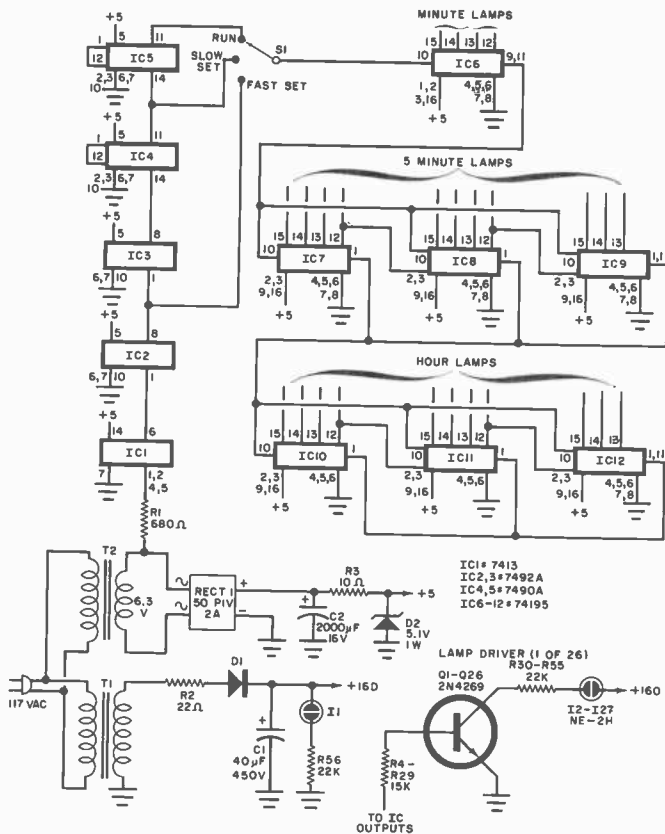

Fig. 3. Schematic of digital electronic clock with an unusual readout system.
**Reader's Circuit.** Quite novel when first introduced, digital electronic clocks have become so commonplace today that they seldom warrant more than a passing glance. However, if you'd like something "really different" in the way of an electronic time keeper, you might consider the circuit shown in Fig. 3. Submitted by Kenneth B. Salomon of the Department of Mathematics, California State University, Hayward, CA 94542, the design has a rather unique readout display—individual lamps to represent 1-minute, 5-minute and 1-hour intervals! The actual time is "read" by totalling the time represented by the number of lamps illuminated in each group. For example, if four 1-hour, seven 5-minute, and three 1-minute lamps are lit, the time is 4:38. Similarly, nine 1-hour, eight 5-minute, and two 1-minute lamps would represent 9:42. With a little practice, the time can be read quickly, although friends and visitors may be somewhat mystified by the instrument.